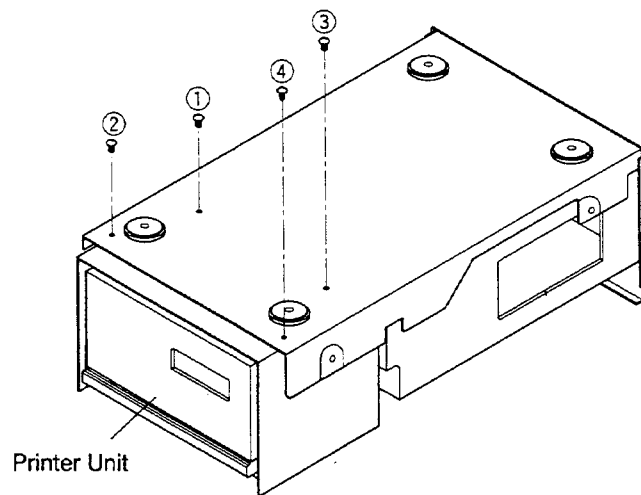

Fig. 9
4. Remove four screws (①, ②, ③ and ④) securing the Printer Unit shown in Fig. 9 and remove the Printer Unit.
1. Remove the Printer Unit. (Fig. 9)